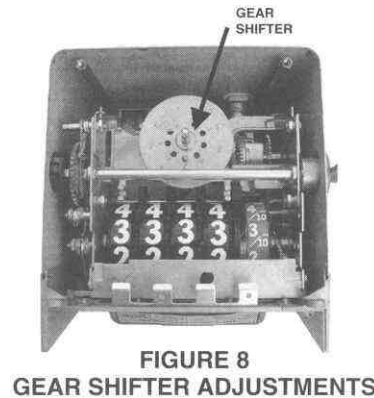

FIGURE 8
2. Lift and turn the change gear shifter (see Figure 8) in the direction indicated on the top of the shifter.